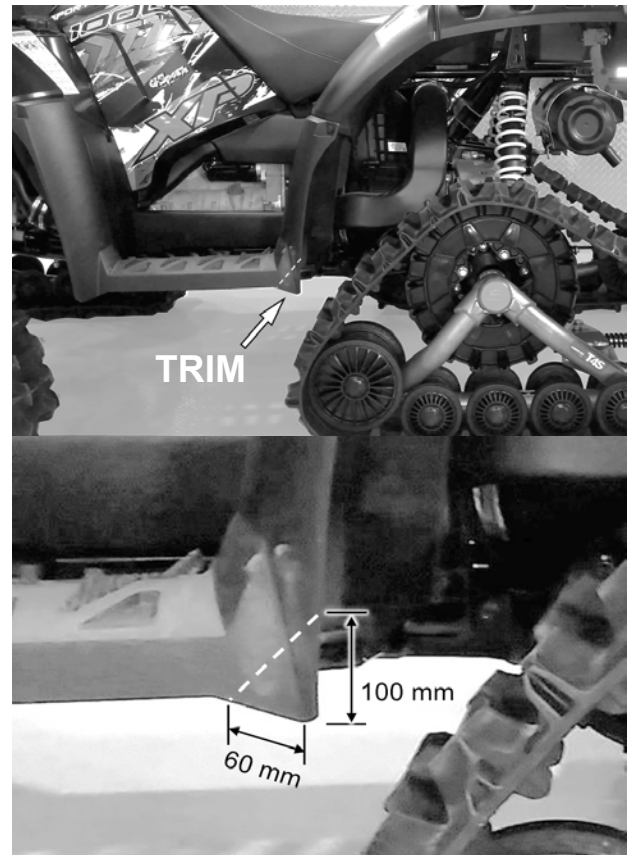

Fig. 31
3. To prevent any contact between the undercarriage and the mud guards, the rear corners of the mud guards should be trimmed back. This will help avoid damage to the ATV and prevent premature wear on the rubber track. See Fig. 31